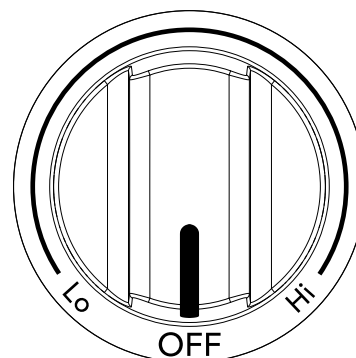

Figure 14: Keep warm knob
1. Push in the knob and turn in either direction (see Figure 14). The temperatures are designated by hi and lo. However, the control can be set at any position between Hi and Lo for different levels of warming.